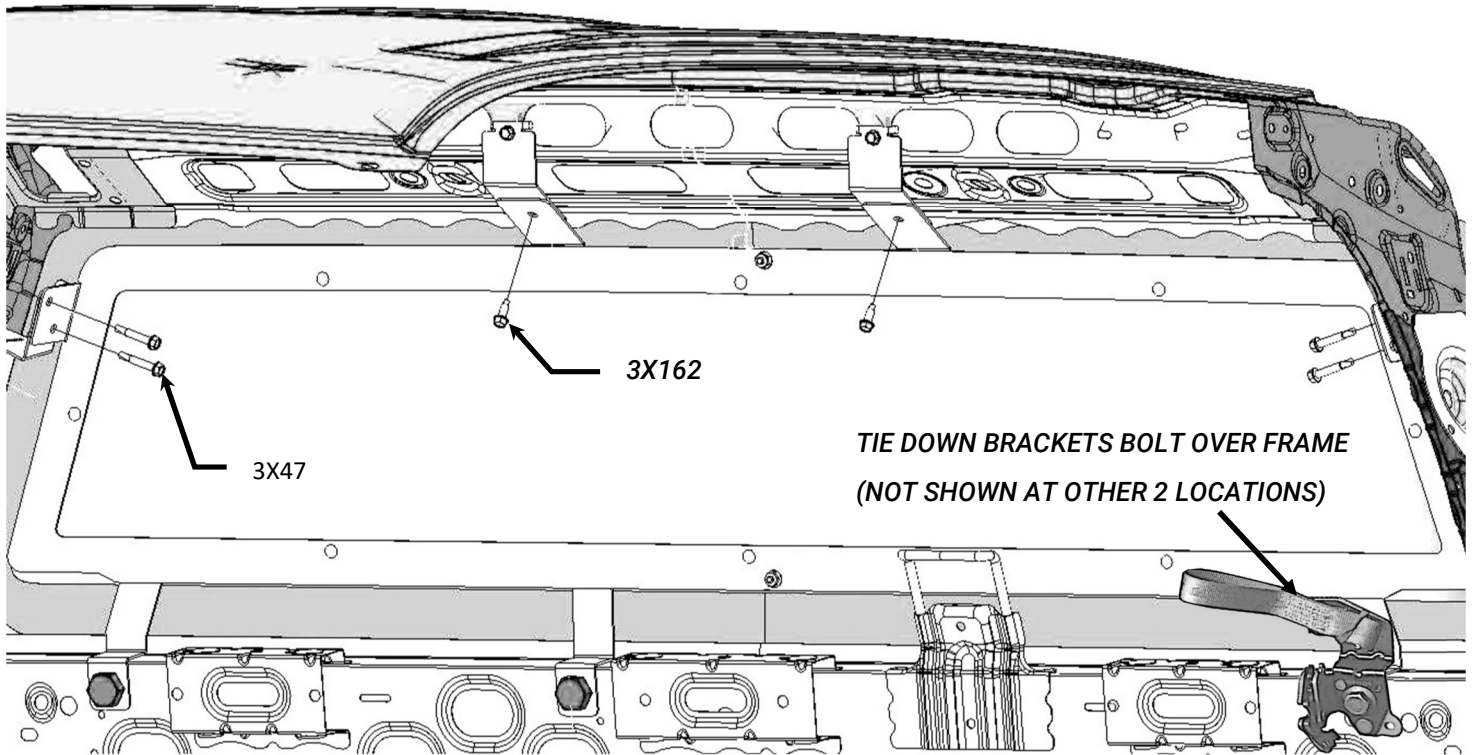

Figure 6
- N. Drive (4) 1-1/2" long self drilling screws [3X47] into upper corner brackets thru trim. (Fig. 6)
- O. Drive (2) self drilling screws [3X162] thru headliner upper brackets at center.(Fig. 6)
- P. Remove lower OEM bolts, re-install tie down brackets over frame brackets and tighten lower OEM bolts. (Fig 6)